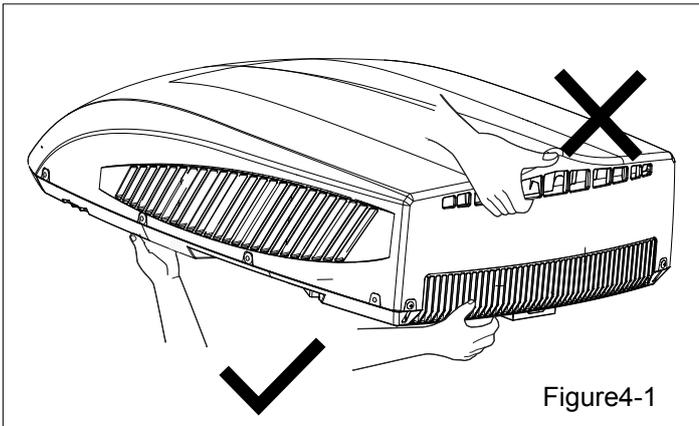

Figure4-1
1) When taking out the outdoor unit after unpacking, do not lift the air outlet grille at the back of outer case (see Figure4-1).